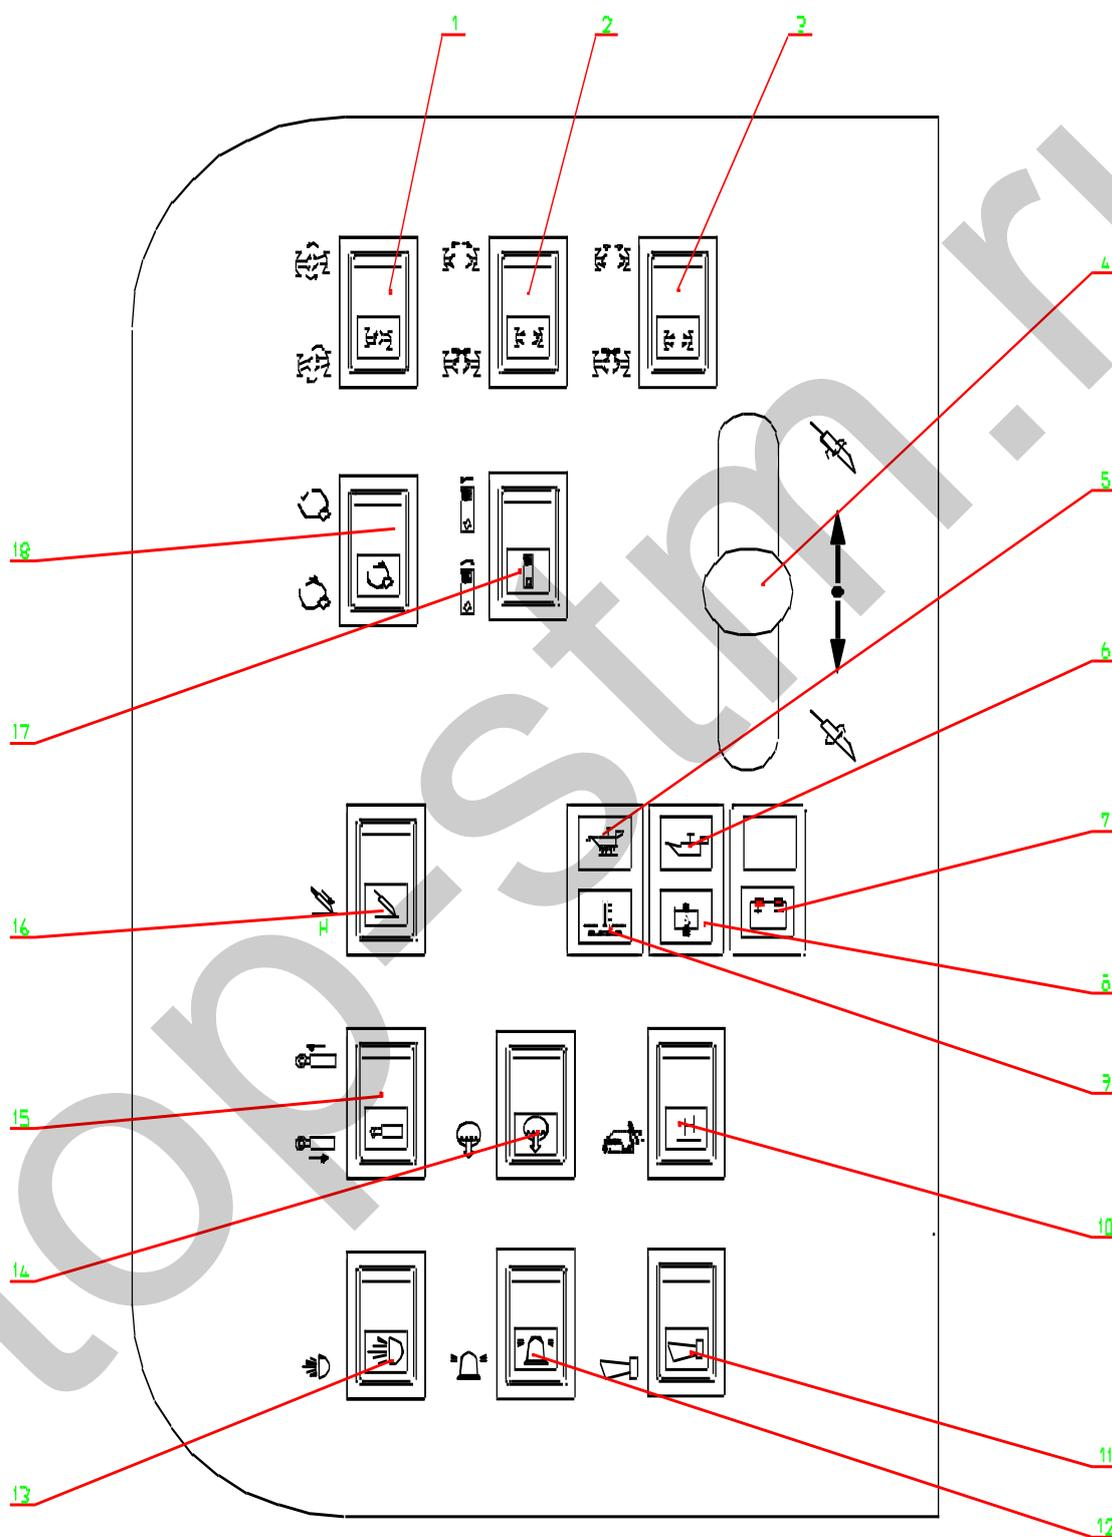

Figure 4 Operation panel of left console
1.1 Please refer to Figure 4 for operation panel of left console and Table 2 for detailed functions.